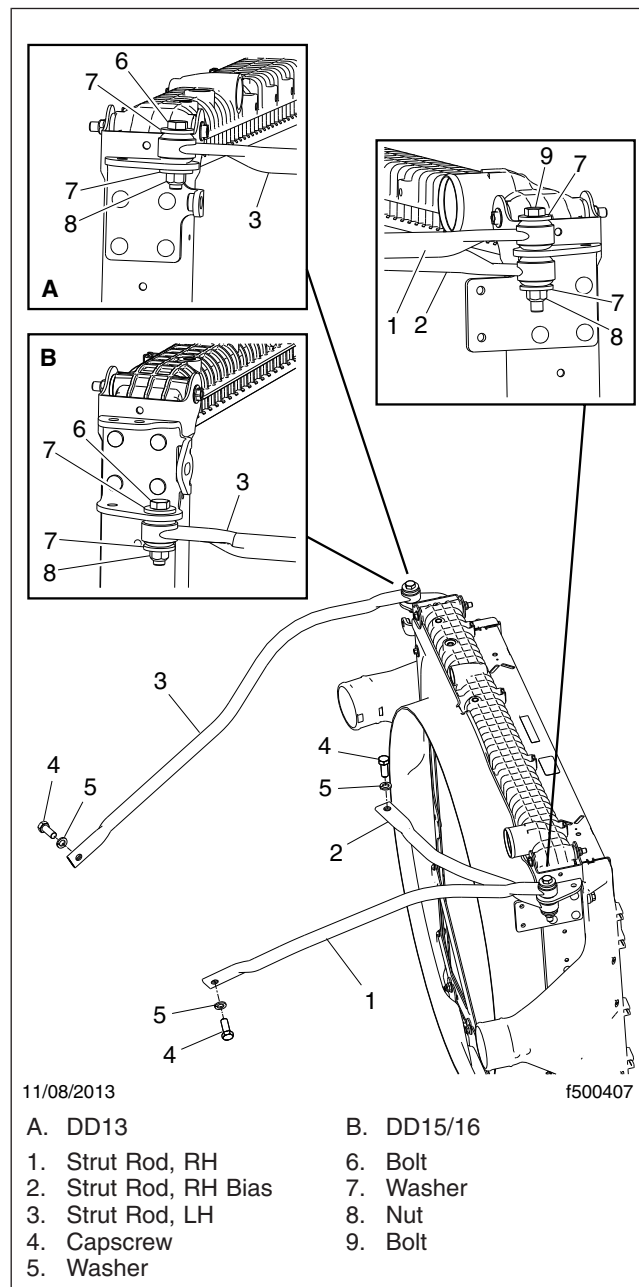
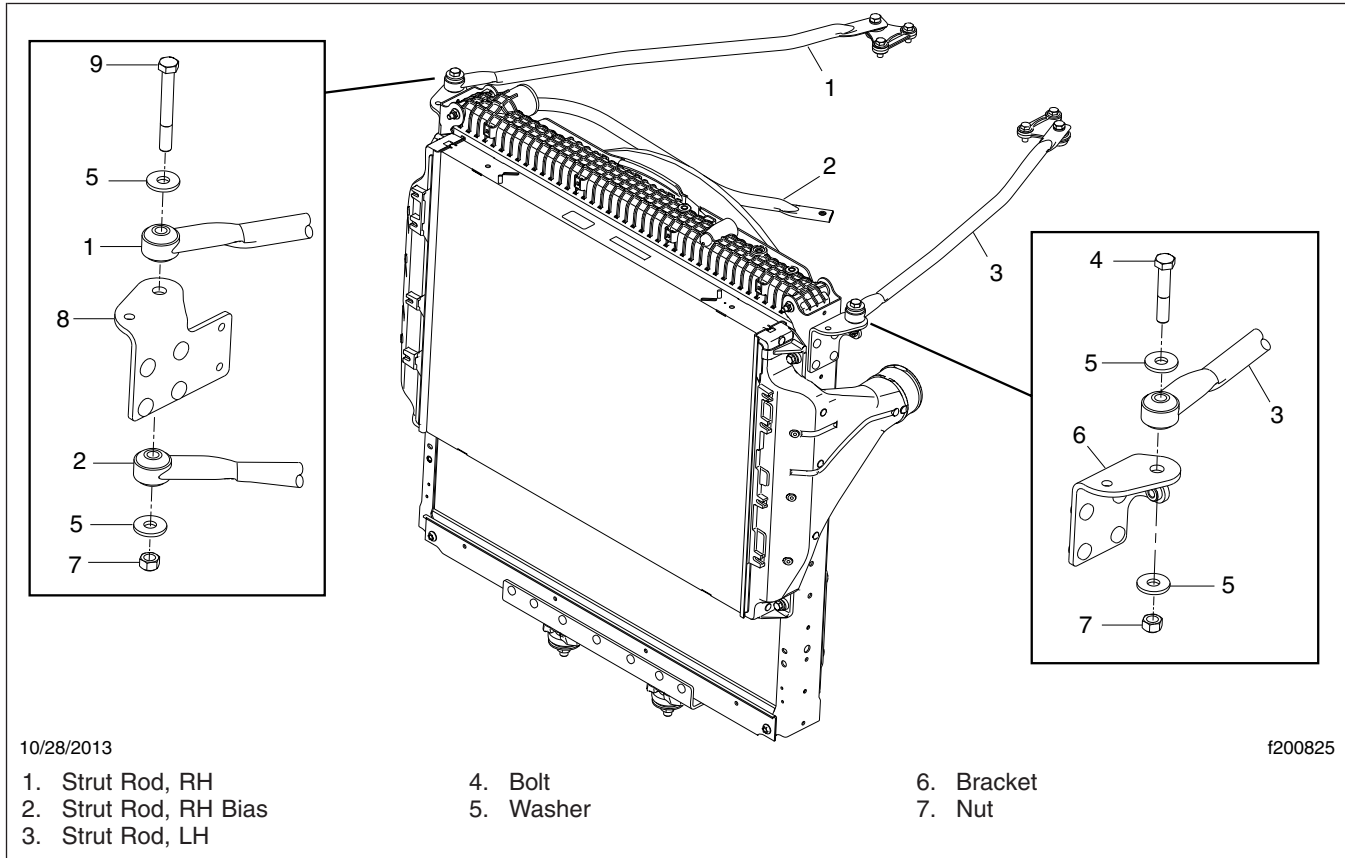

Fig. 16, Isolated Radiator Strut Rod Installation, DDC Engine
Fig. 17, Isolated Radiator Strut Rod Installation, Cummins Engine
35. Install the new isolated radiator strut rods. See **Fig. 16** for DDC engine installations, or **Fig. 17** for Cummins engine installations. Tighten the radiator strut rod fasteners at the radiator 55 to 65 lbf·ft (75 to 90 N·m), and at the engine block 125 to 139 lbf·ft (171 to 188 N·m) for DDC engines, or 55 to 65 lbf·ft (75 to 90 N·m) for Cummins engines.